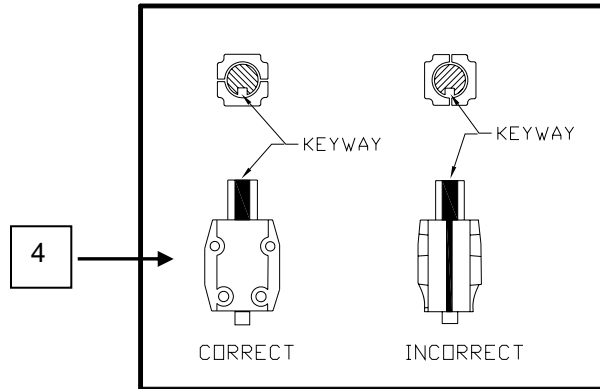

Figure 10. Aligning Keyway.
7. Remove the bolts securing the coupling halves and remove the coupling (**Figure 10, Item 4**).
10. Install the coupling halves (**Figure 10, Item 4**) and secure in place with bolts. Align motor shaft keyway (**Figure 10, Item 4**).